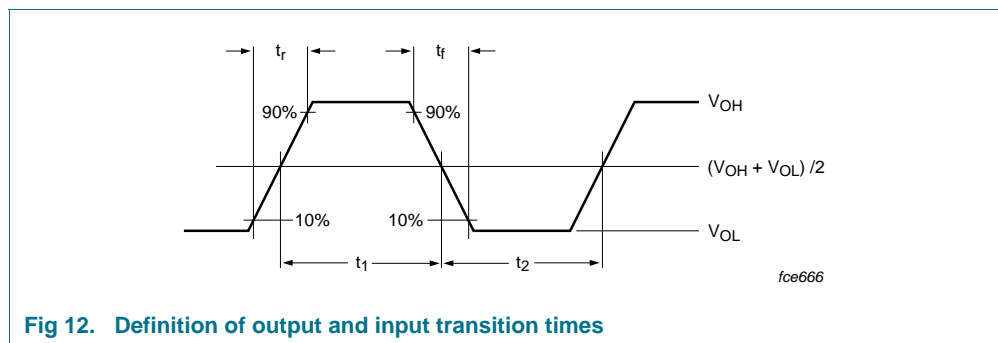

Fig 12. Definition of output and input transition times
- [2] The transition time and the duty factor definitions are shown in Figure 12 on page 24; $d = t1/(t1 + t2)$